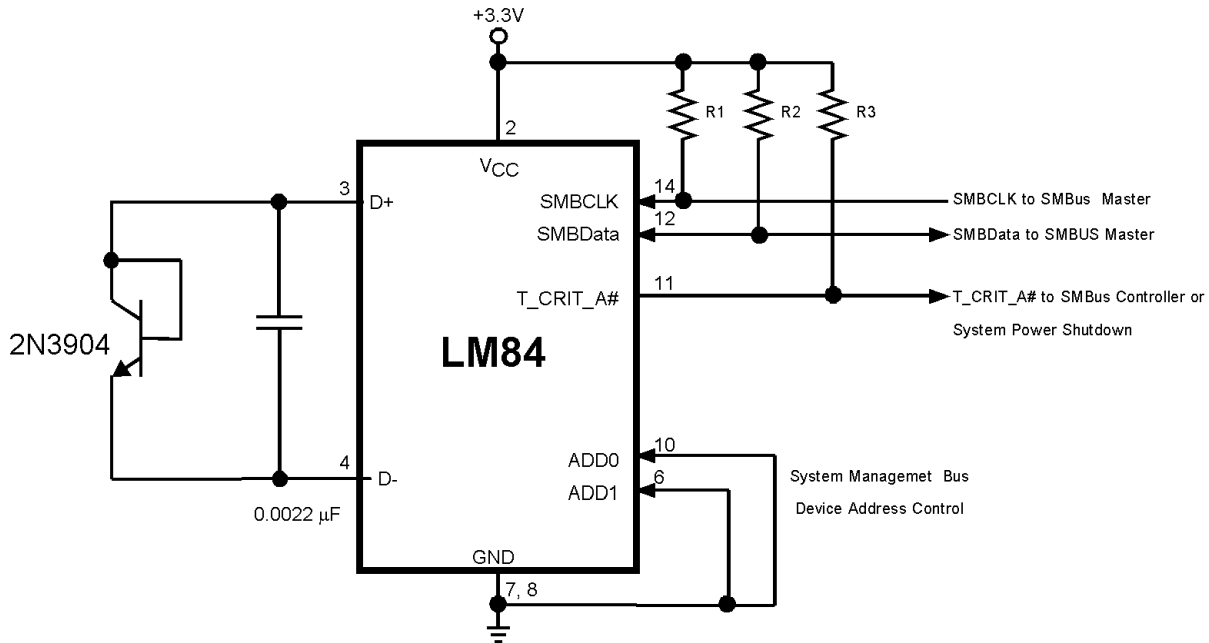

FIGURE 6. Recommended Diode Trace Layout
3. Diode traces should be surrounded by a GND guard ring to either side, above and below if possible. This GND guard should not be between the D+ and D- lines. In the event that noise does couple to the diode lines it would be ideal if it is coupled common mode. That is equally to the D+ and D- lines. (See *Figure 6*)